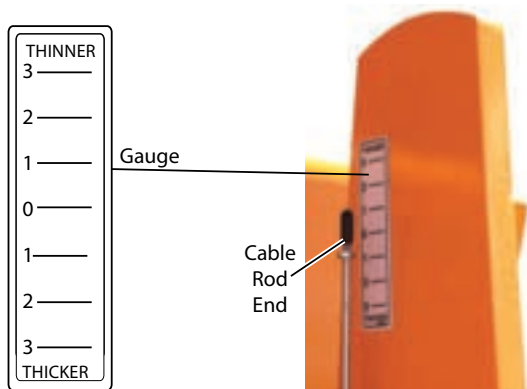

Figure 4-45. Gauge and Cable Rod End
4. Level the screed using the electric flight screw gauge **(Figure 4-45)**.